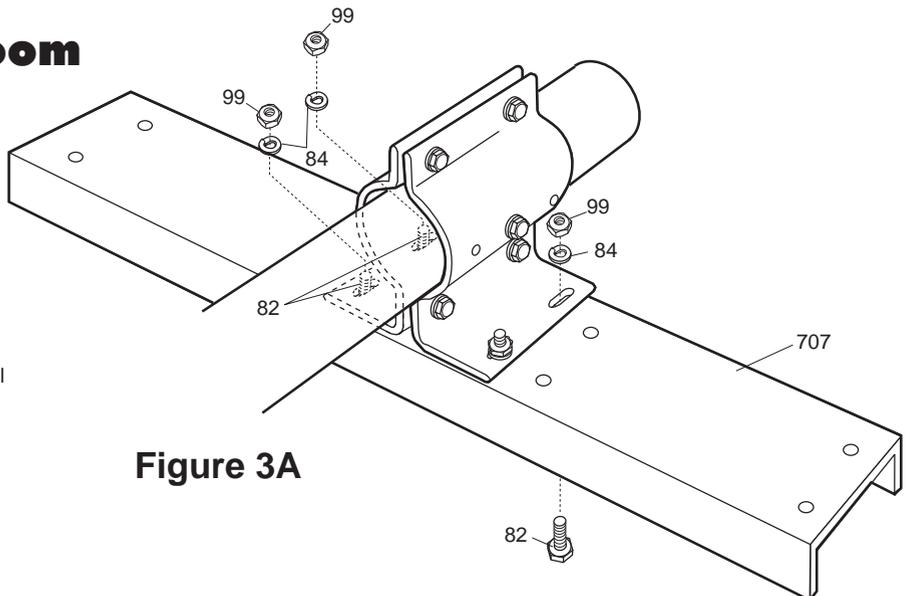

Figure 3A
Figures 3A and 3B show the steps for element mounting on the XM520 boom. For element location see Figure 4A. Attach the U-channel plate (707). Attach elements using 4 Cush-a-Clamps (98) (Figure 3B). Be sure Cush-a-Clamps are placed in the correct locations according to Figure 3B. The element pictured in Figure 3B is the Driven Element. All elements mount with the same hardware.